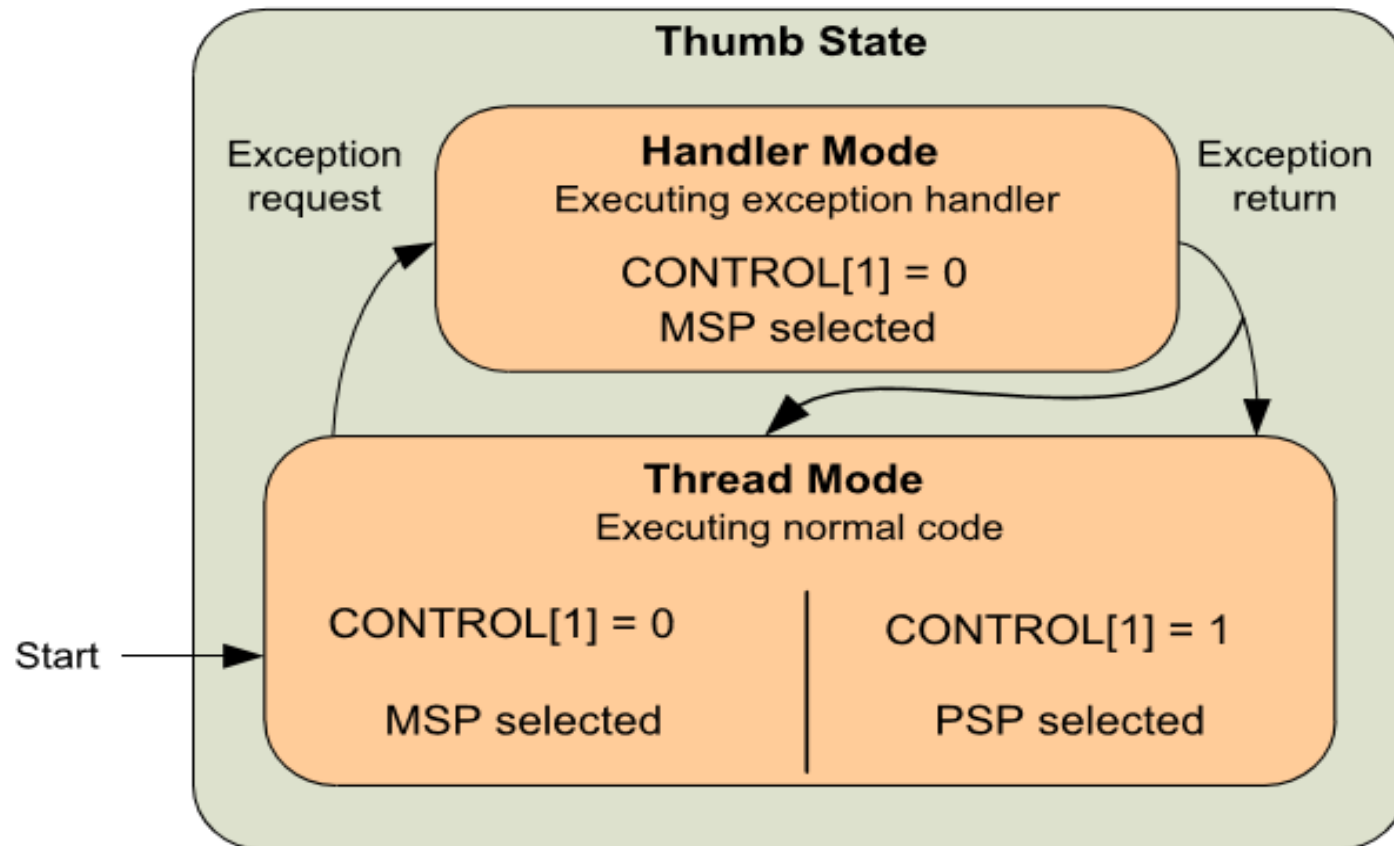

Figure 3.7:
- After reset, the main stack pointer (MSP) is used, but can be switched to the process stack pointer (PSP) in Thread mode (when not running an exception handler) by setting bit [1] in the CONTROL register (Figure 3.7).
- In the Cortex-M0 processor, the stack pointer is register R13 in the register bank. Physically there are two stack pointers in the Cortex-M0 processor, but only one of them is used at one time, depending on the current value of the CONTROL register and the state of the processor (see Figure 3.7).